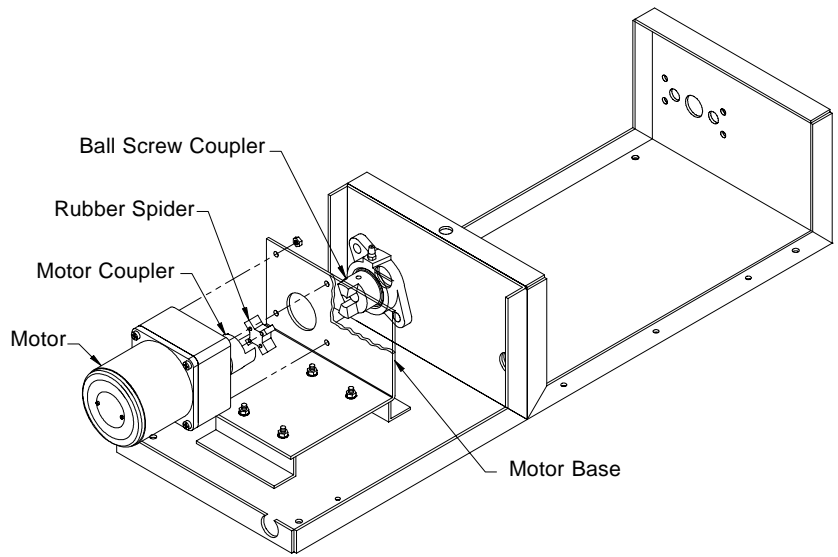

Figure 2
- 7) Align the motor coupler and ball screw coupler and slide motor base forward so that couplers are tight together. Secure motor base to the actuator by tightening the (4) bolts left loose in Step 4. **See Figure 2.** If couplers do not fit together tightly, loosen torque of motor coupler and slide coupler outward. Repeat Step 7.